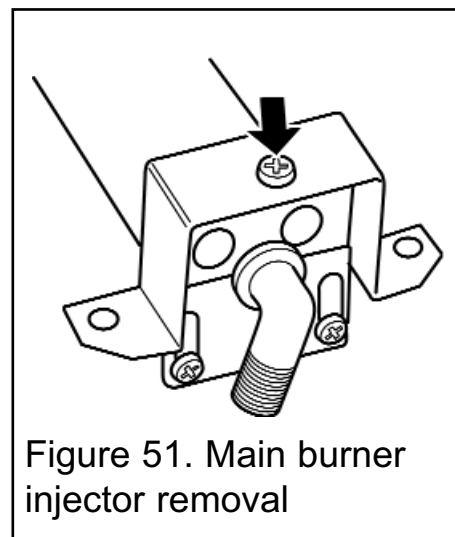

Figure 51. Main burner injector removal
(See figure 51).
2. Remove the burner clamping screw (See figure 51).